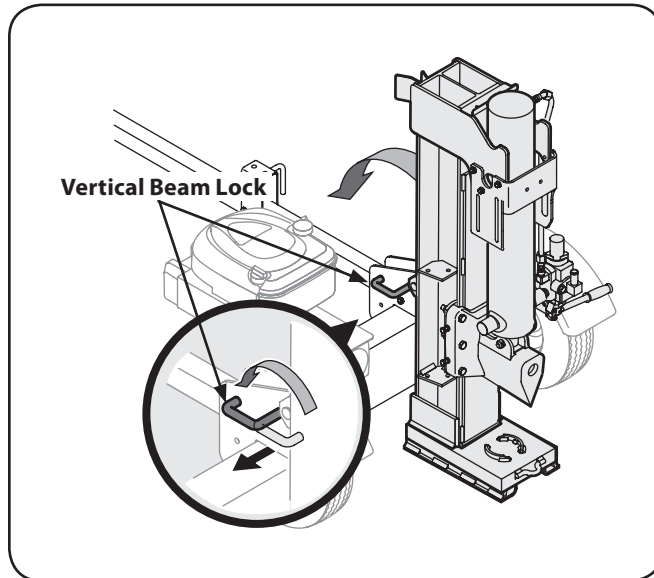

Figure 3-3
1. Pull out the vertical beam lock, rotate it back, and pivot the beam into the horizontal position until it locks. See Fig. 3-3.